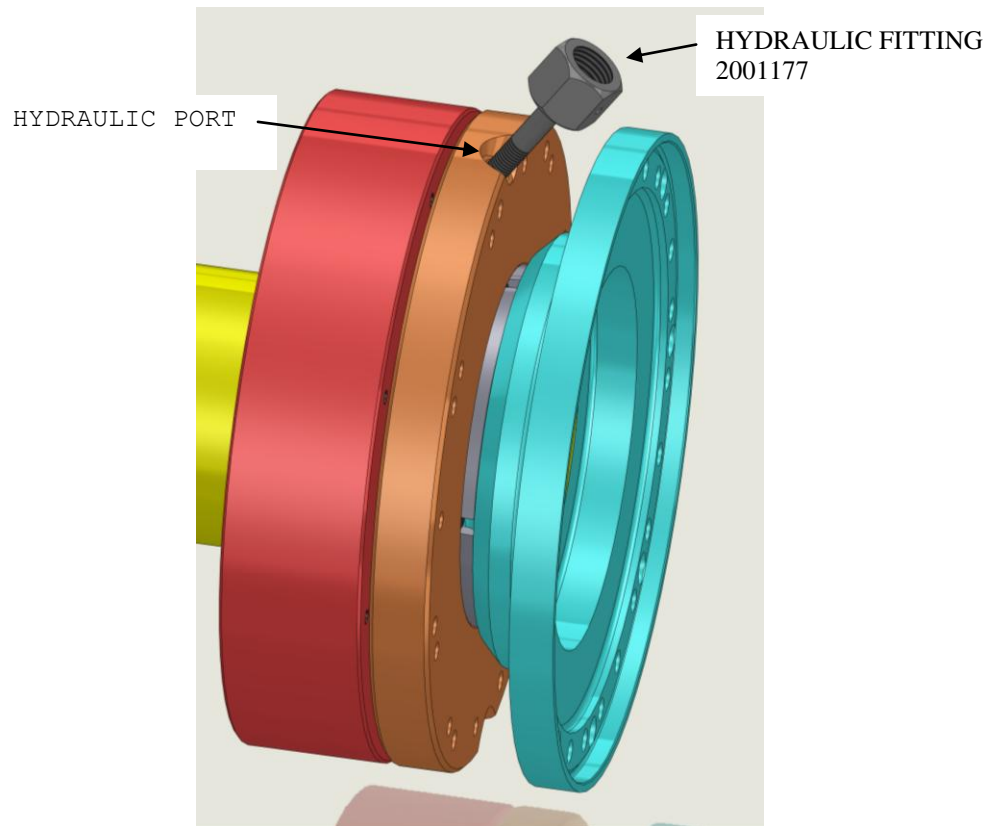

Figure 4
Caution: Possible equipment damage. Do not put excessive torque on the hydraulic port adapter. Do not pull on hydraulic port adapter (See Figure 4).
2.4.4 Thread the Hydraulic Port Adapter fitting (Riverhawk PN 2001177) into one of the hydraulic ports on the HTC as shown in Figure 4.
5.2 Install the hydraulic adapter in one port as in Figure 4.